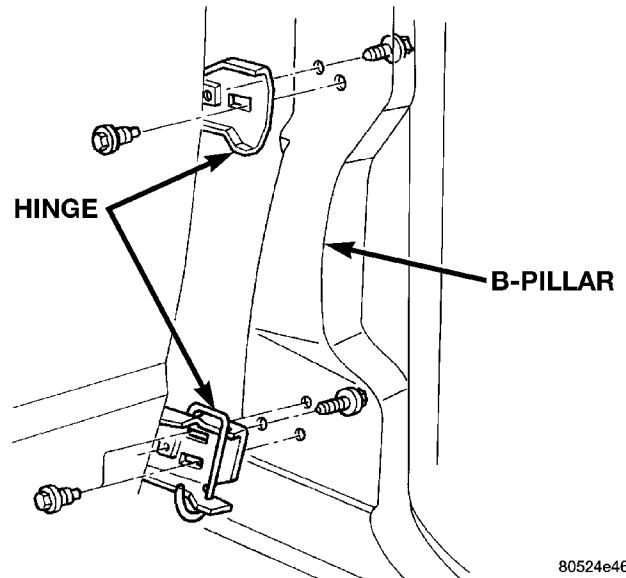

Fig. 30 Rear Door Hinge
- (1) Open and support door.
- (2) Remove bolts attaching hinge to C-pillar (Fig. 30).
- (3) Separate door from vehicle.